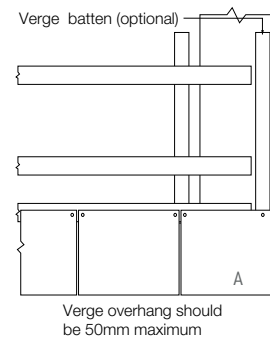

Fig. 6 - 1st under eaves course
- 3 Begin by cutting and head nailing the first under-eaves course along the eaves (Fig. 6). Drill two 4.0mm dia. holes for nails 20mm in from each edge and 15mm down from the head (when using 50 x 25mm battens). The top of the slate is placed at the centre of the batten and a 4-5mm gap should be left between each slate.